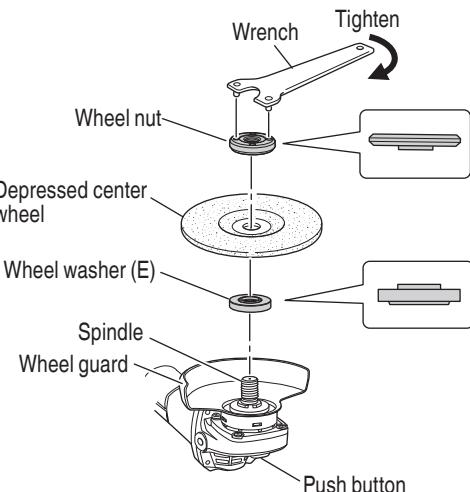

Fig. 17
4. Thoroughly check that the depressed center wheel is free of cracks, splits and other abnormalities before mounting. Make sure it is firmly clamped and has been properly mounted. Refer to "Depressed Center Wheel Assembly and Disassembly" (Fig. 17)
Tighten the wheel nut by using the supplied wrench as shown in Fig. 17.